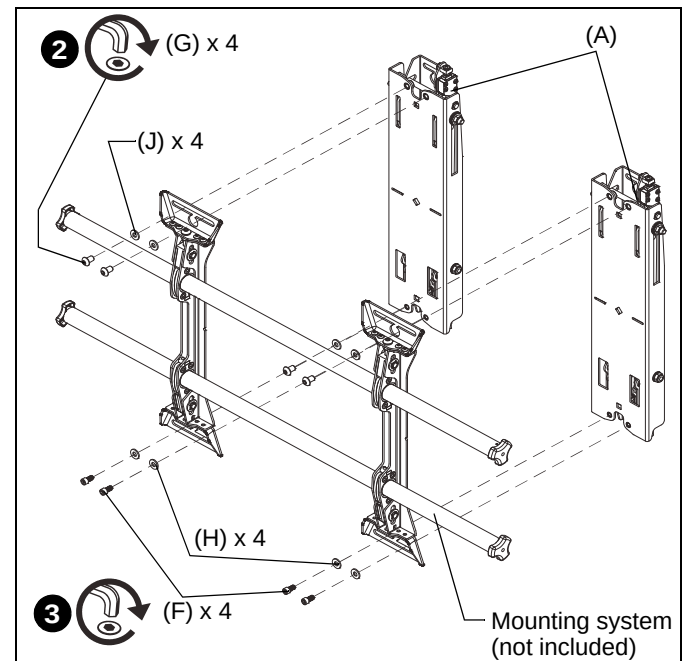

Figure 4
1. Attach top of mounting system (not included) to top of FCAV1U accessories using two 5/16-18 x 1/2" button head cap screws (G) and two 5/16" washers (J) in each top mounting slot. (See Figure 4)
2. Attach bottom of mounting system to bottom of FCAV1U accessories using two 1/4-20 x 1/2" socket head cap screws (F) and two 1/4" washers (H) in each bottom mounting slot. (See Figure 4)